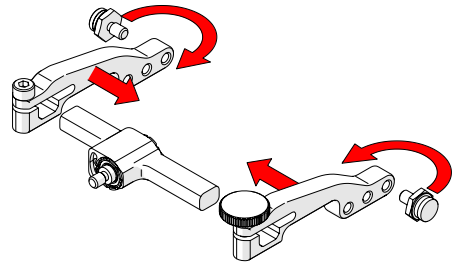

Fig. 149 - Attach arms and move buttons
4. Place the pivot buttons on the inside of the probe holder arms (Fig. 149) using a 3/8 in wrench (Fig. 52). Slide the arms onto the yoke and tighten the probe holder arm adjustment knob and the arm clamp screw.